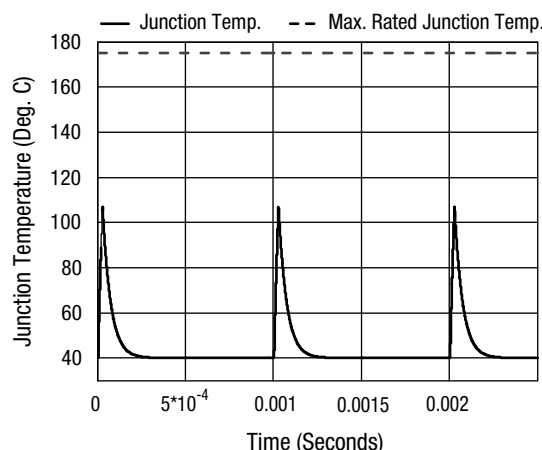

Figure 8. Diode Junction Temperature vs. Time, Duty Cycle = 10%
If the input signal were continuous wave (CW), the junction temperature would seriously exceed the maximum rated temperature, and the diode would consequently be destroyed. The thermal capacitance of this diode is 57.6 µJ/°C, so the thermal time constant is $\tau_{\text{THERMAL}} = 46$ µs. Since $6 \times \tau_{\text{THERMAL}}$ is substantially longer than the burst duration, we can expect that the junction temperature of diode will not reach the maximum possible temperature. The simulated junction temperature versus time for this set of conditions is shown in Figure 8.
We can see in Figure 8 that the peak diode temperature is approximately 107 °C, which is well under the rated maximum junction temperature of 175 °C. Notice that after each RF burst there is ample time for the T_J to recover to the die attach surface temperature before the next burst occurs. Under these signal conditions, the diode is not subjected to overstress.